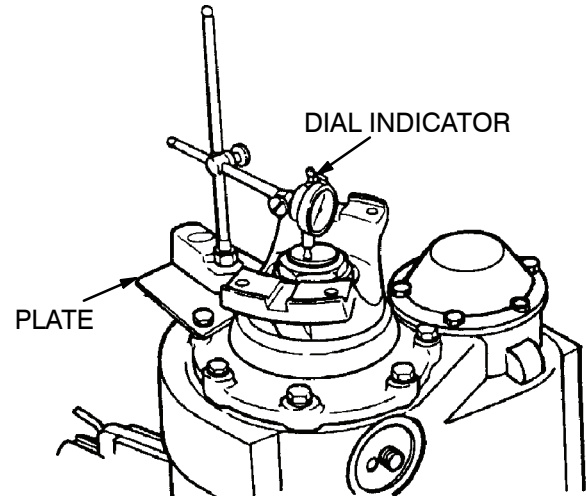

Figure 99.
- (8) Put a holding tool on the input yoke and tighten the nut to 600–800 ft–lbs (813–1085 N·m).
- (9) Check the end play of the input shaft according to the following procedure:
- Use a dial indicator with a magnetic base or a C-clamp base to check the end play of the input bearing. Make sure the pointer of the dial indicator is against the top of the input shaft. Set the dial indicator at zero (0). Figure 99.